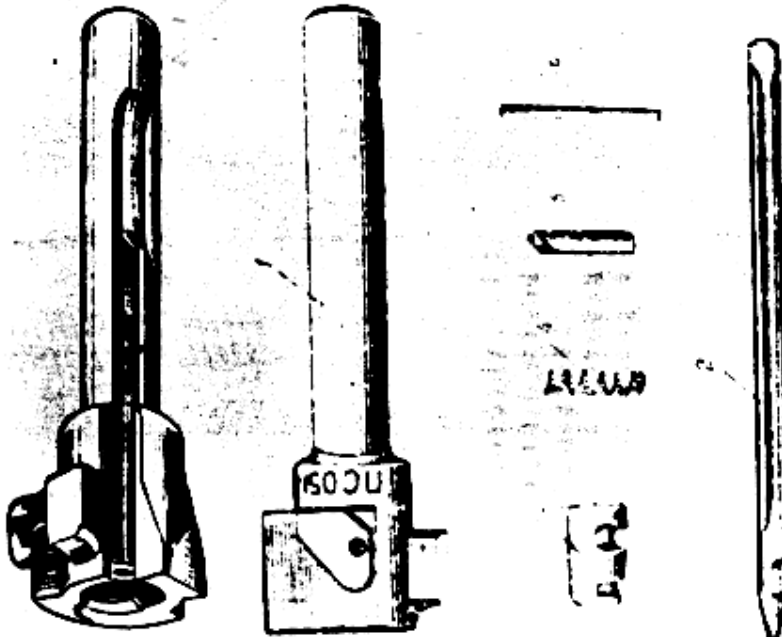

Figure 23. Bolt, assembled and disassembled (assy. (3-2)).
The bolt (fig. 23) serves to push the rounds into the chamber, seal the bore and extract the cartridges cases from the chamber.
The firing pin is prevented from falling out of the body by pin (6) (fig. 23), by means of the notch (3) in the firing pin.
The extractor with spring is installed in the bolt head by means of pin (3). The extractor pin is prevented from falling out of its hole by pin (6) (see fig. 23) and the shoulder in the hole for the pin.